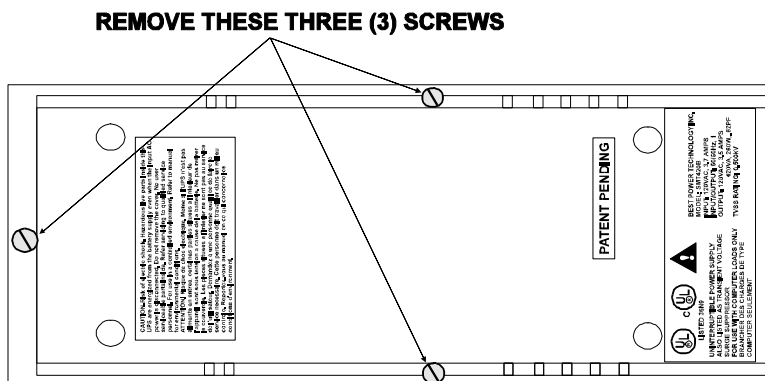

Figure 2
For Patriot SMT and Patriot SPI 250 and 400 models, Remove the three (3) screws that hold the cover on the base of the UPS cabinet. (See Figure 2.)
402. Turn the UPS over and lay it upside down. Reattach the screws you removed earlier. (See Figure 2 or 3 on page 3.)